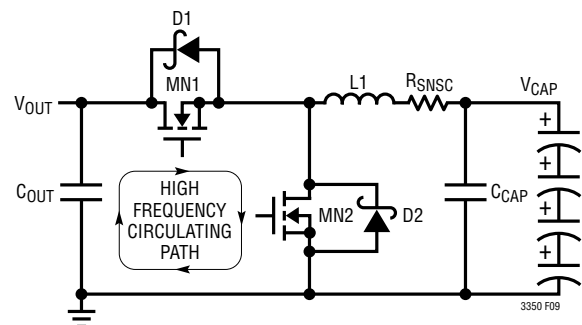

Figure 9. High Speed Switching Path
1. Keep M1, M2, D1, D2 and C_{OUT} close together. The high di/dt loop formed by the MOSFETs, Schottky diodes and the V_{OUT} capacitance, shown in Figure 9, should have short, wide traces to minimize high frequency noise and voltage stress from inductive ringing. Surface mount components are preferred to reduce parasitic inductances from component leads. Connect the drain